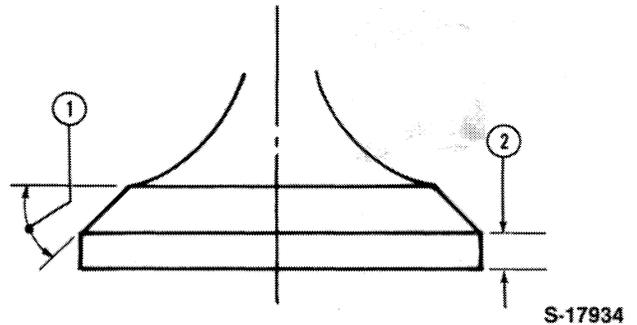

Figure 22
- If inspection indicates that the valve may be re-used, the valve should be ground as shown, Figure 22.